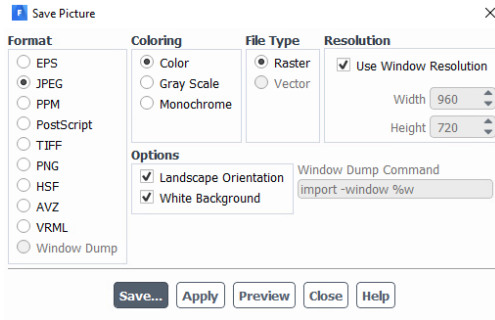

Figure 33. “Save Picture” window.
6.1.6. To save the plot: on the top menu bar, select **File > Save Picture**. In the “Save Picture” popup window, set the options as shown in Figure 33. Click . And then, type in your file name in the “Select File” popup window.